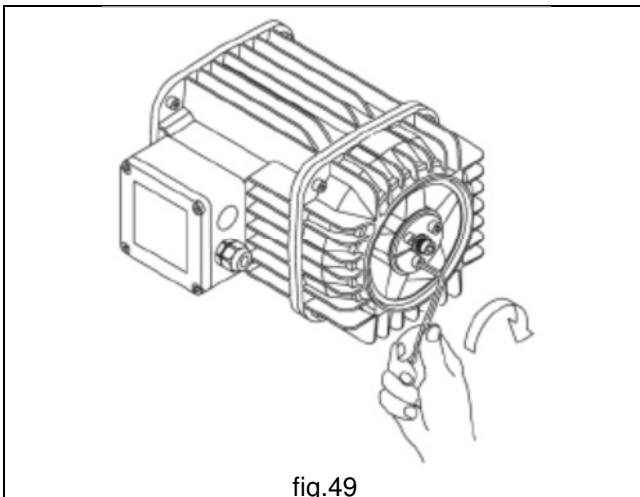

fig.49
8. Replace the three screws in the original seat on the ring nut tightening them on the shoe (fig. 49)